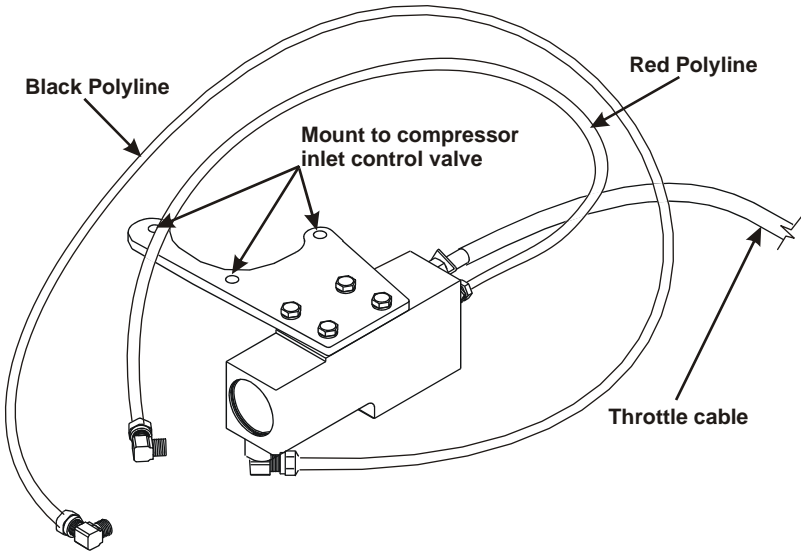

Figure 4.2
- Place the pneumatic throttle controller complete with mounting bracket on the top of the compressor (Figure 4.2). Install the three supplied M8 X 1.25 X 60 socket head cap screws and torque to specifications.